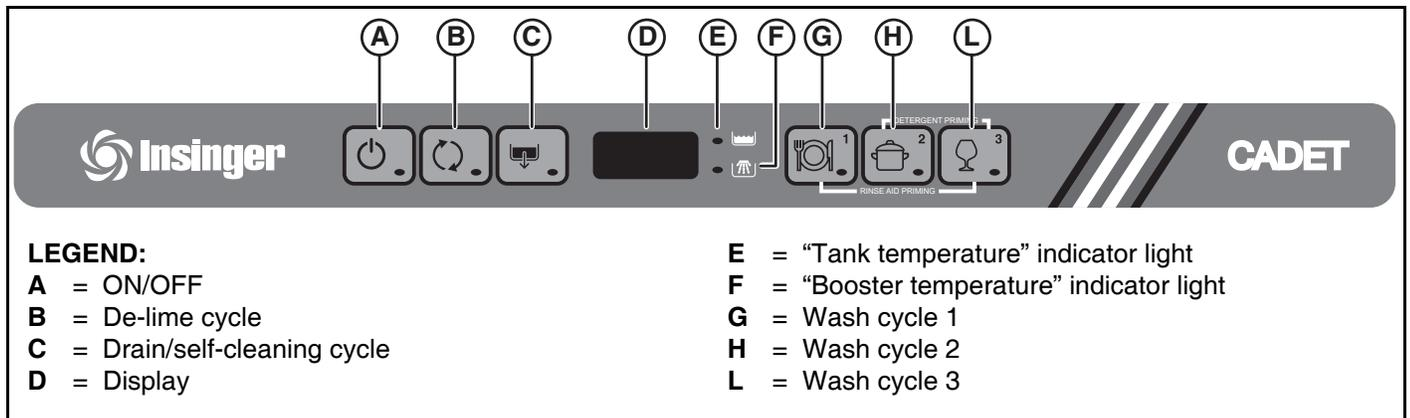

Figure 14
The indicator light of the ON/OFF button “A” (Figure 14) comes on, indicating that the dishwasher is powered and that water is being introduced and heated.
To display the boiler temperature during heating of the tank, open the door and press **"G"** button (Figure 14).
For lightly soiled dishes or glasses: press **"G"** button (Figure 14) (see table of times).
For normally dirty dishes: press **"H"** button (Figure 14) (see table of times).
- Select the drain cycle by pressing "B" button (Figure 14).
- Switch off the dishwasher by pressing "A" button (Figure 14).
Close the door and select the drain cycle by pressing the "C" button (Figure 14).
Switch off the dishwasher by pressing "A" button (Figure 14)
Press on/off "A" button (Figure 14).
Close the door and start the cycle by pressing "B" button (Figure 14).